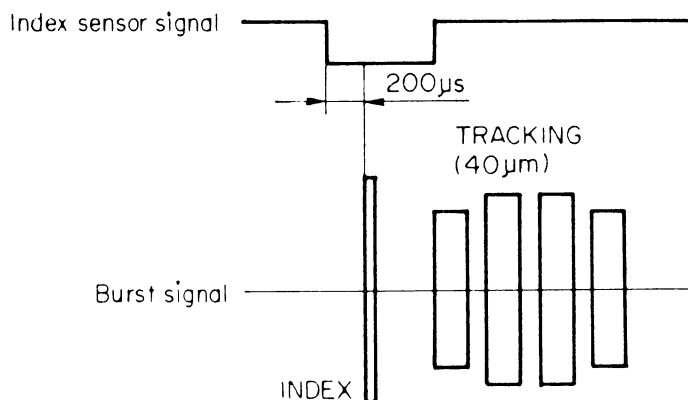

Fig. 305
5. Check that the burst signal wave form in Fig. 305 is observed. If the burst signal wave form is not observed, the tracking is out of alignment.
3. Manually rotate the stepping motor body and monitor the burst signal waveform. (Fig. 305) When the burst signal waveform cannot be received, check with track 14 or 18.
2. Move the head to alignment check track 16 and check that a burst signal is received as shown in Fig. 305.
5. Repeat step in operation until burst signal waveform is observed (Fig. 305).